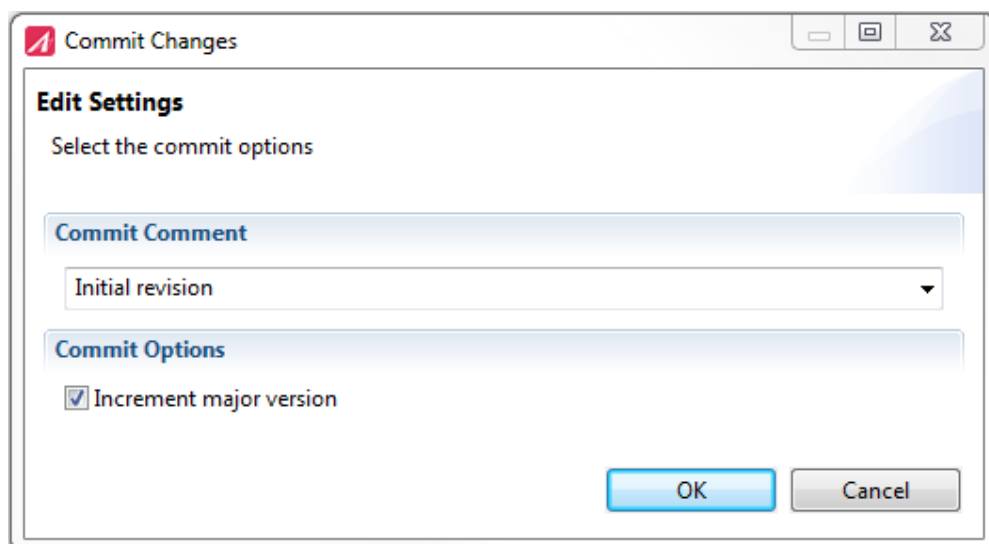

Figure 5.33: Comment for the initial revision of the commit
- Enter "Initial revision" as commit comment and click "OK" (see figure 5.33).